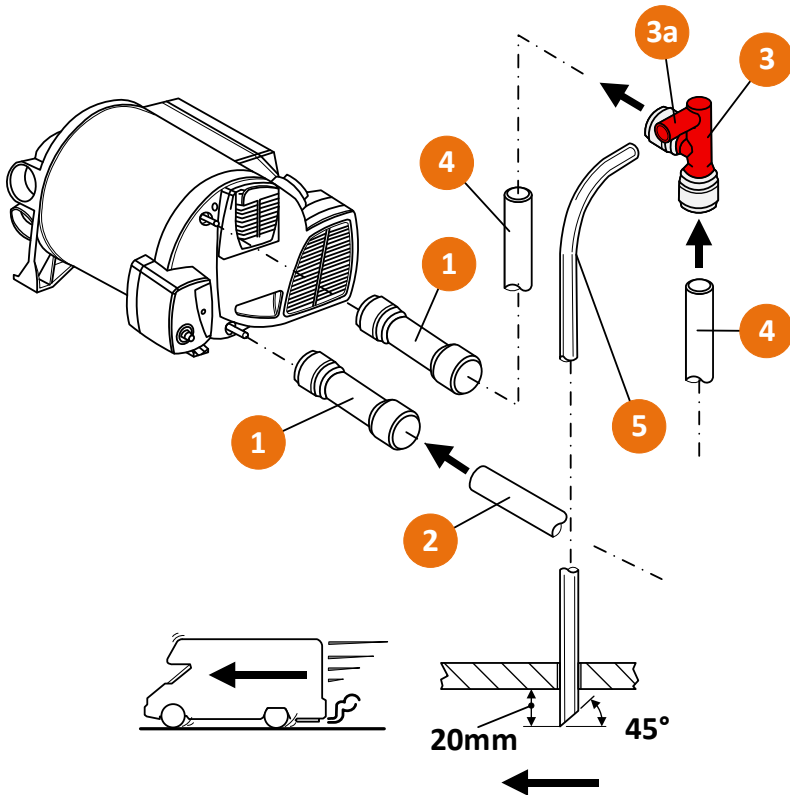

Figure 15
Figure 15 shows an example of how to connect the water lines.
4. Make sure that the venting hose extends only 20mm (0.8") beneath the motorhome's undercarriage. Cut the end of the hose at a 45-degree angle (Figure 15).